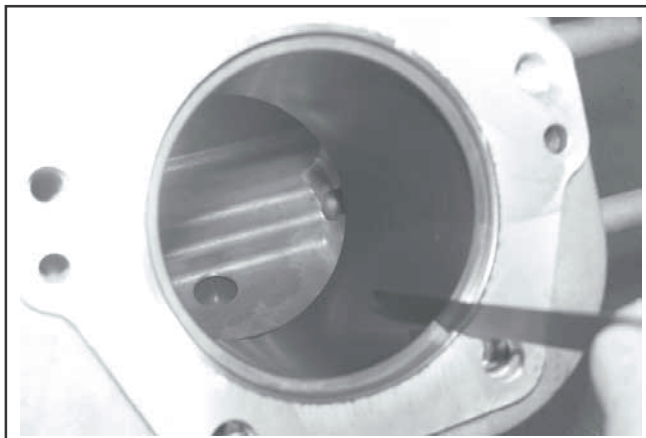

Figure 9-9. Measuring Piston Ring End Gap.
4. Before installing the new rings on the piston, place the top two rings, each in turn, in its running area in the cylinder bore and check the end gap. See Figure 9-9. Compare the ring gap to the specifications listed in Section 1.